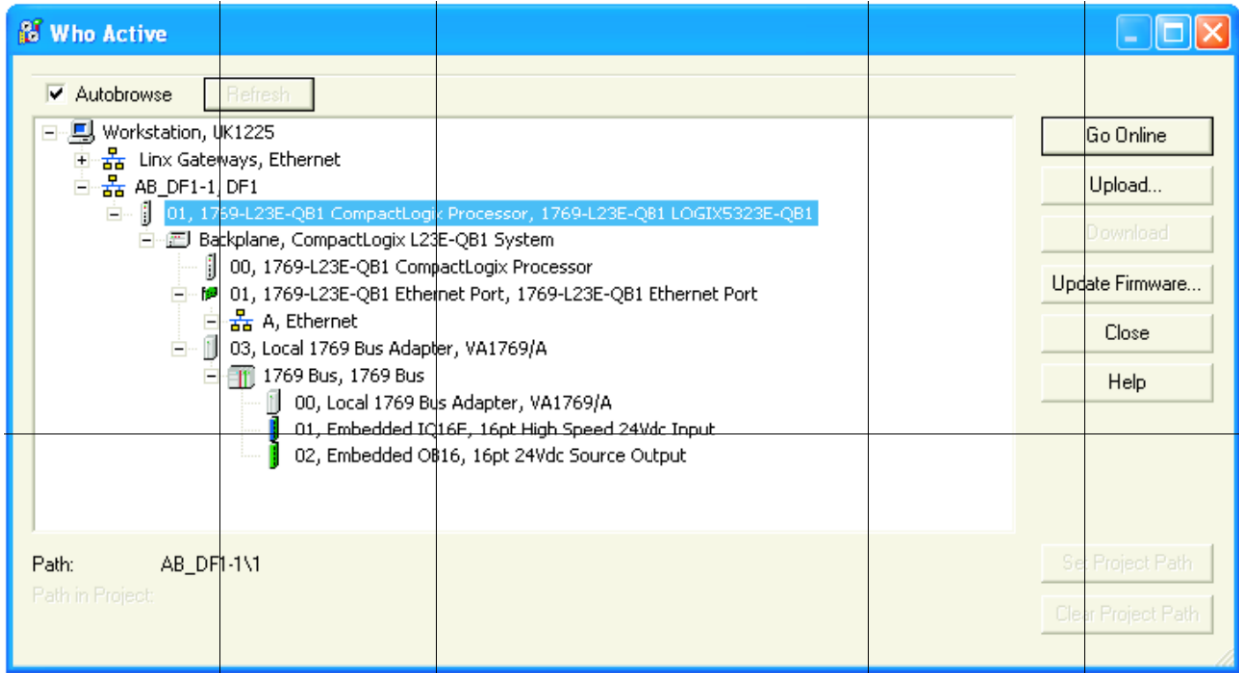

Figure 11-5: Who Active Window
1. Select the relevant instrument (Figure 11-5) and click on 'Update Firmware'. In the 'Choose Firmware Revision' window, select the latest version. Click on 'Update'.